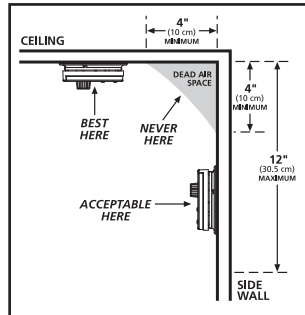

FIGURE 1
- The most favorable mounting location for a heat alarm is on the ceiling in the center of the room. At this location the alarm is closest to all areas of the room (see figure 1).
- If the alarm cannot be located in the center of the room, an off-center location can be used on the ceiling. When off center mounting an alarm on the ceiling, locate it at a minimum of 4" (10 cm) from the side wall (see figure 1).
- If a ceiling mounting location is not feasible the next logical location for mounting heat alarms is on the side wall. When mounting the alarm on the wall, use an inside wall with the top edge of the alarm at a minimum of 4" (10 cm) and a maximum of 12" (30.5 cm) below the ceiling (see figure 1).
Modern mobile homes have been designed and built to be energy efficient. Install heat alarms as recommended above (refer to RECOMMENDED LOCATIONS and FIGURE 1).
In older mobile homes that are not well insulated compared to present standards, extreme heat or cold can be transferred from the outside to the inside through poorly insulated walls and roof. This may create a thermal barrier which can prevent the heat from reaching an alarm mounted on the ceiling. In such units, install the heat alarm on an inside wall with the top edge of the alarm at a minimum of 4" (10 cm) and a maximum of 12" (30.5 cm) below the ceiling (see figure 1).